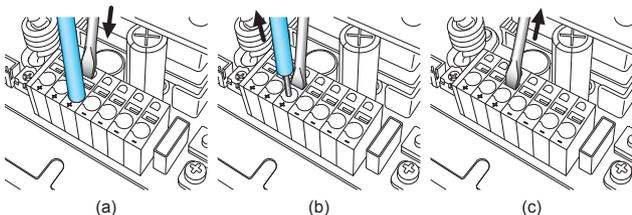

Fig.6.7 Releasing method of Ferrule terminal, Solid wire and Stranded wire
- Step1: Insert a flat-blade screwdriver into the release hole. (Refer to the fig.6.7(a).)
- Step2: Remove the wire with the flat-blade screwdriver inserted in the release hole. (Refer to the fig.6.7(b).)
- Step3: Remove the flat-blade screwdriver from the release hole. (Refer to the fig.6.7(c).)